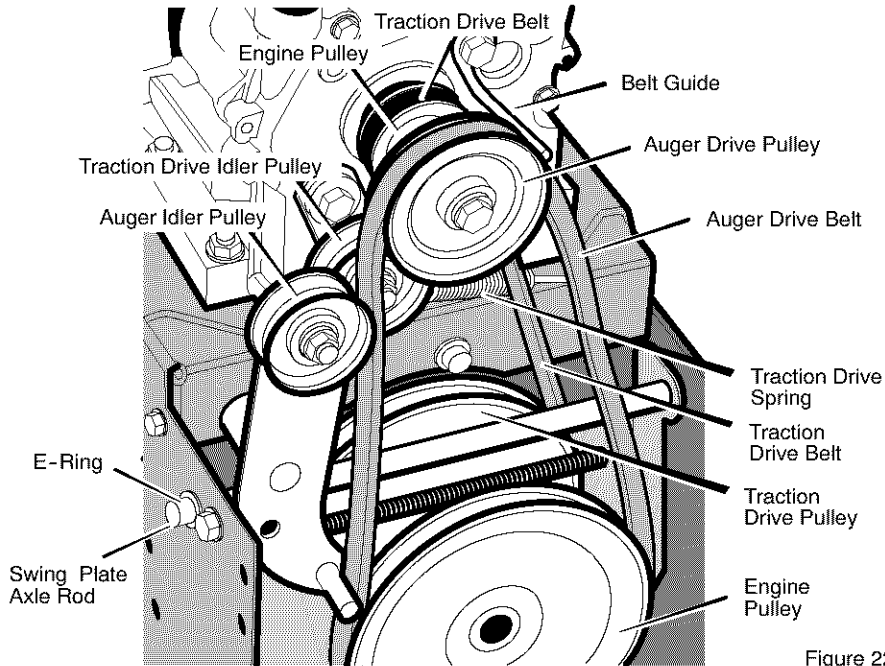

Figure 22
3. Loosen nut on auger idler pulley and move auger idler pulley towards belt about 1/8 inch (3 mm) (see Figure 22).
5. Loosen the **belt guide**. Pull the **belt guide** away from the **auger drive pulley** (see Figure 22).
3. Remove the **e-ring** from one end of the **swing plate axle rod**. Remove the **swing plate axle rod** to allow the the swing plate to pivot forward (see Figure 22).